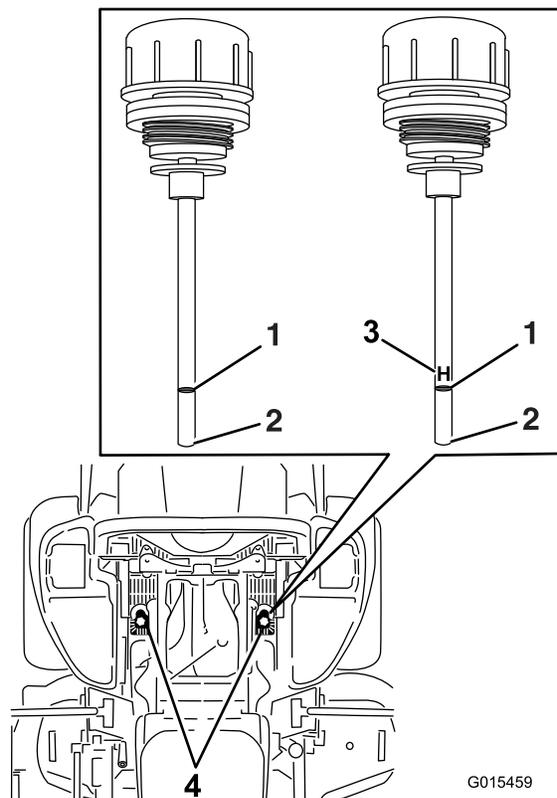

Figure 95
5. Clean the area around the dipsticks of hydraulic-system reservoirs (Figure 95).
6. Remove 1 dipstick from the hydraulic reservoir (Figure 95).
8. Remove the dipstick and look at the end (Figure 95).